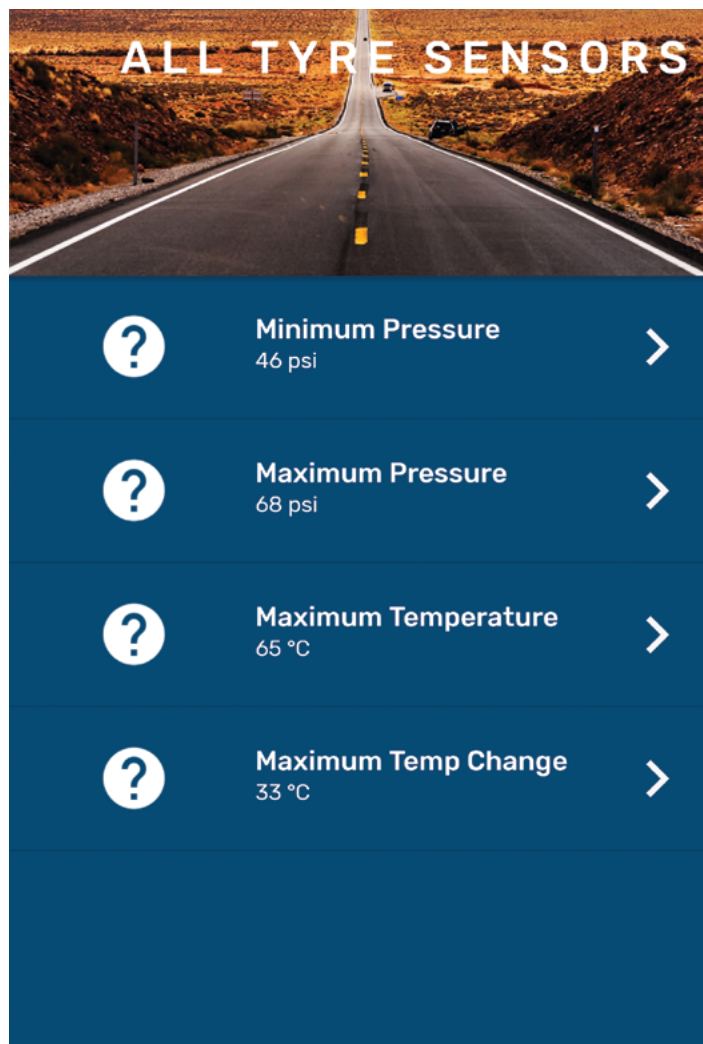

Fig.28
2. The next screen will feature settings for all programmable limits (Fig.28). Select the arrow to the right of the setting to establish pressure and temperature thresholds for all the sensors.